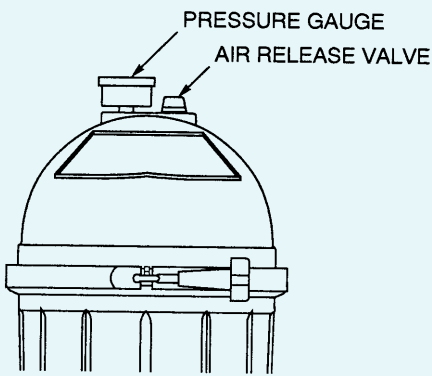

Fig. 4
11. Attach pressure gauge and air release valve as shown in Figure 4. Apply Teflon tape to threads of pressure gauge.